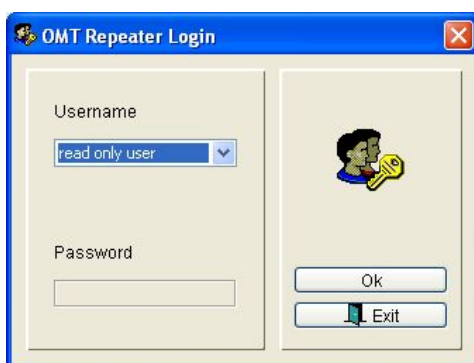

FIGURE 8 – LOGIN PANEL
- The 'Login panel' is displayed (FIGURE 8).